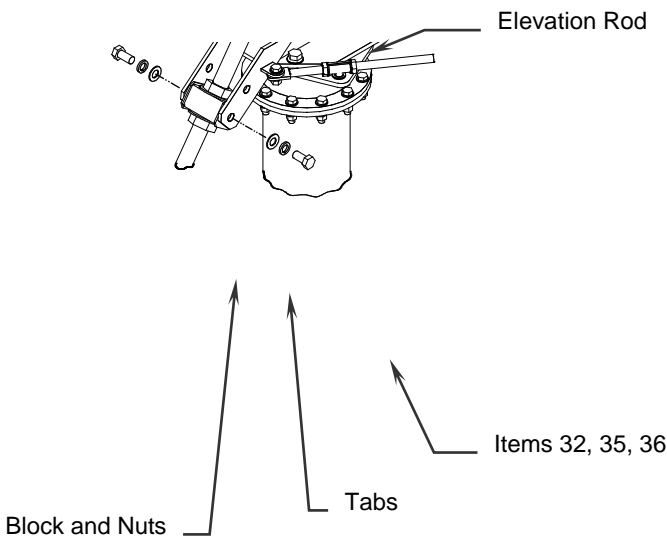

Figure 22: Elevation Lower Connection Assembly
29. Refer to Figure 22, Elevation Lower Connection Assembly. Loosen the nuts on the elevation rod so that the block has some freedom to move.
31. Secure Block with 1" hardware (items 32, 35, and 36). Tighten the 2" nuts against the block. Fine elevation adjustment will be set later.